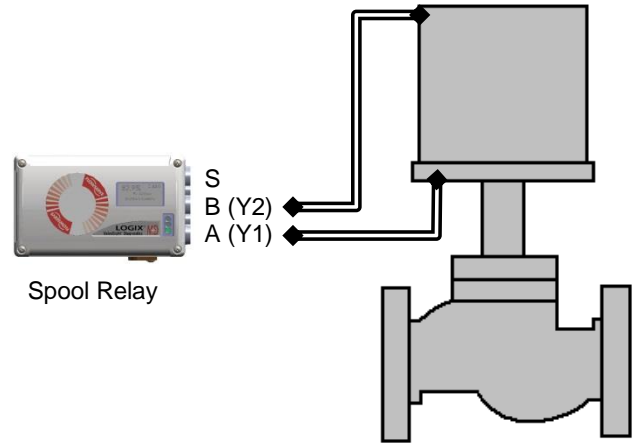

Figure 18: Linear, Double Acting, Air to Open
- 3 Mount the positioner onto the actuator using the washers and nuts. See Figure 18.